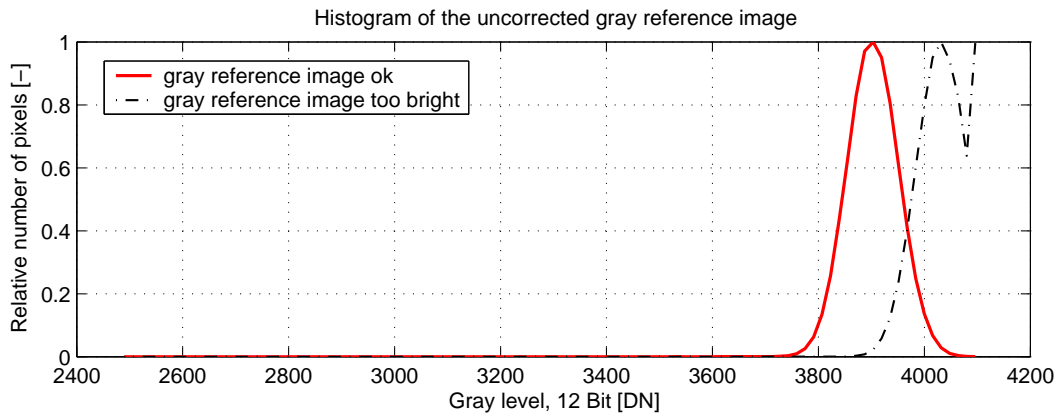

Figure 4.29: Proper gray reference image for gain correction
- When looking at the histogram of the gray reference image, ideally there are no gray levels at full scale (4095 DN @ 12 bit). All pixels that are saturated white will not be properly corrected (see Fig. 4.29).